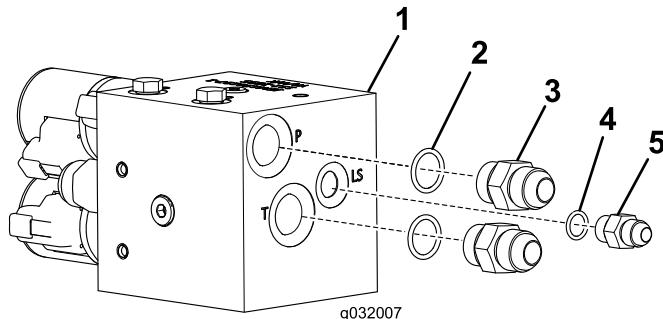

Figure 1
- Install the small straight fitting and the 2 large straight fittings onto the solenoid valve as shown in Figure 1.